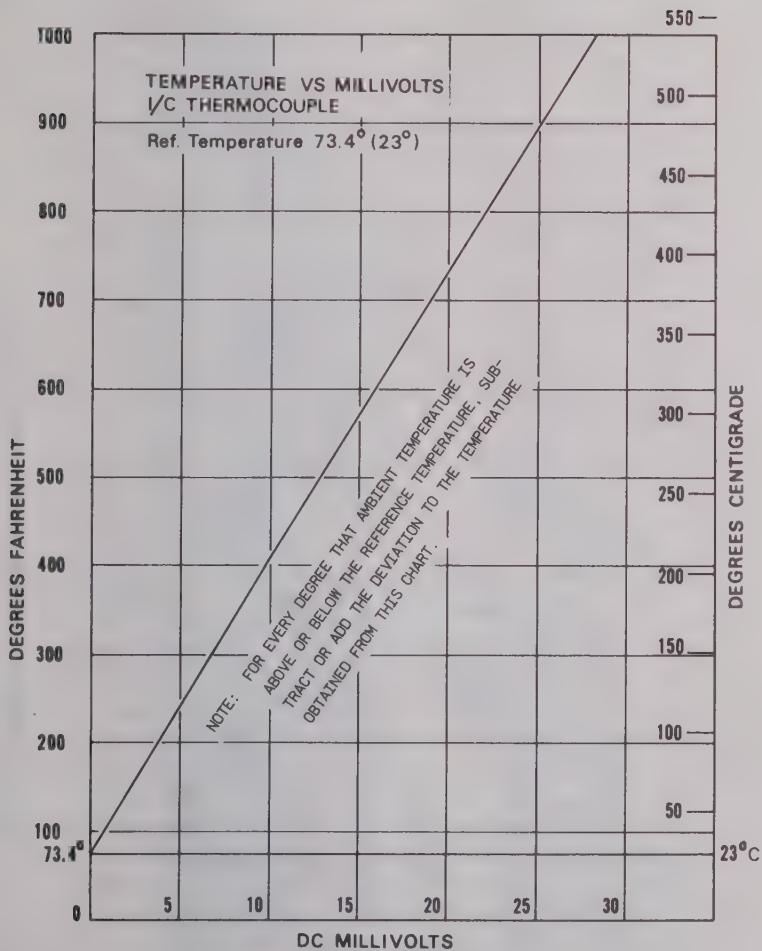

Figure 7-1. Temperature VS Millivolts, I/C Thermocouple
7.3.3 Iron-Constantan Temperature Probes are available for use with the Model 605 Series 2 MULTICORDER. Temperatures up to about 1000°F can be measured and recorded, using the millivolt ranges. The curve given is adjusted to a reference temperature of 73.4°F (23°C) since the Instrument does not have reference temperature compensation. (See Figure 7-1.) Other thermocouple types may be used in conjunction with standard reference tables.